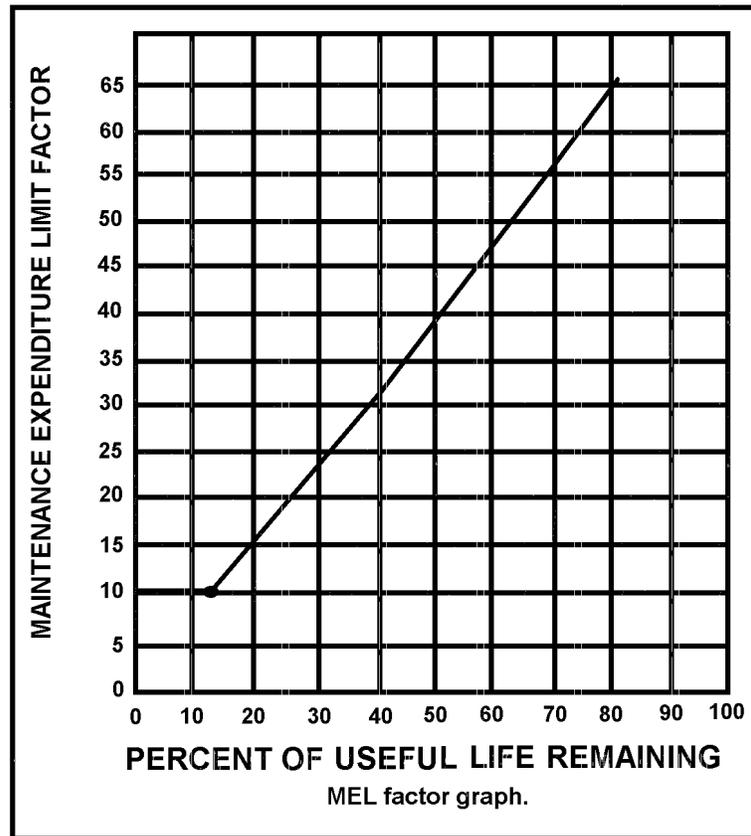

Figure 3-50
- c. Use the chart at Figure 3-50 to determine the MEL factor. Read up vertically from the percent of the useful life remaining to a point of intersection with the baseline.